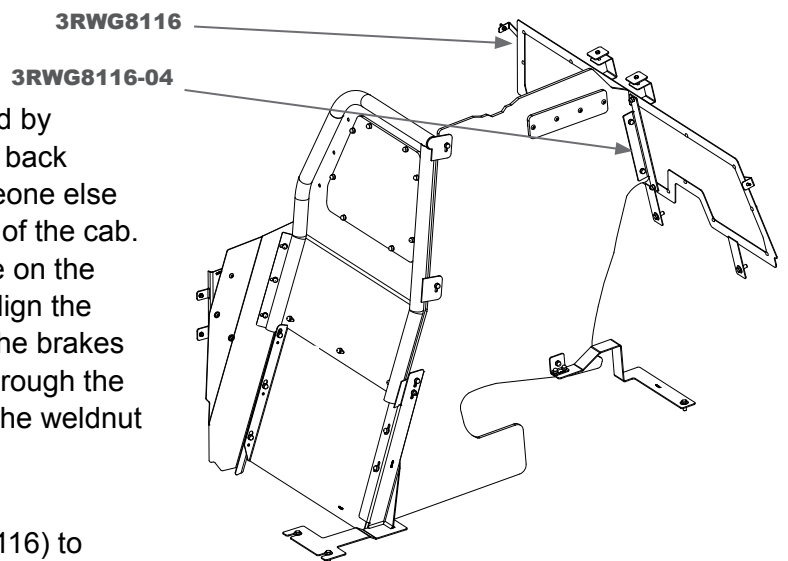

Fig. 5
- A. Attach (3P8010) vent plate to the (**3P8116-NWG**, if not using a window guard/**3P8116-WG**, if using a window guard) divider as shown in fig. 5 using the supplied spacers, bolts, and nuts.